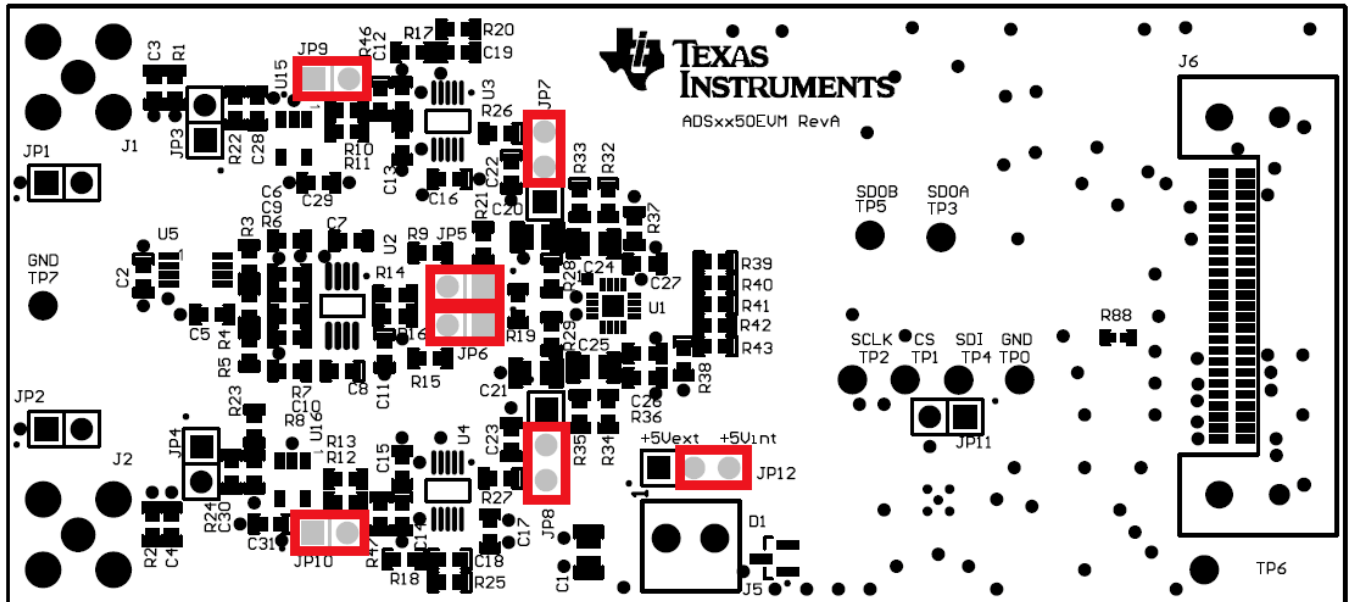

Figure 5. ADS8350EVM Default Jumper Settings
A silkscreen plot detailing the default jumper settings is shown in Figure 5. Table 5 explains the configuration for these jumpers.
- Step 2. Verify the ADS8350EVM jumpers are configured; see Figure 5.